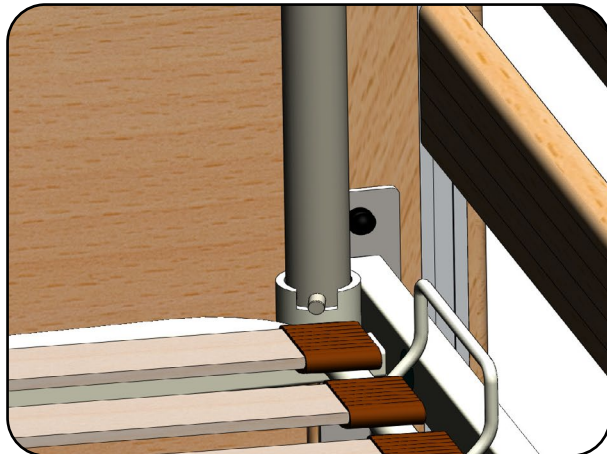

Fig. 6.5.01 – Head-end mount for uplifter
2. Insert the uplifter into one of the head end receptacles on either the left or right (Fig. 6.5.01). Ensure that the pin of the uplifter is completely inserted in the notching of the uplifter mounting.